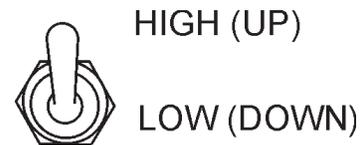

Figure 67. Engine Speed Switch (High)
3. Set the engine speed switch (Figure 67) to the "**High**" position.
1. Place both the **MAIN, GFCI** and **LOAD** circuit breakers as shown in Figure 67 to the "OFF" position".